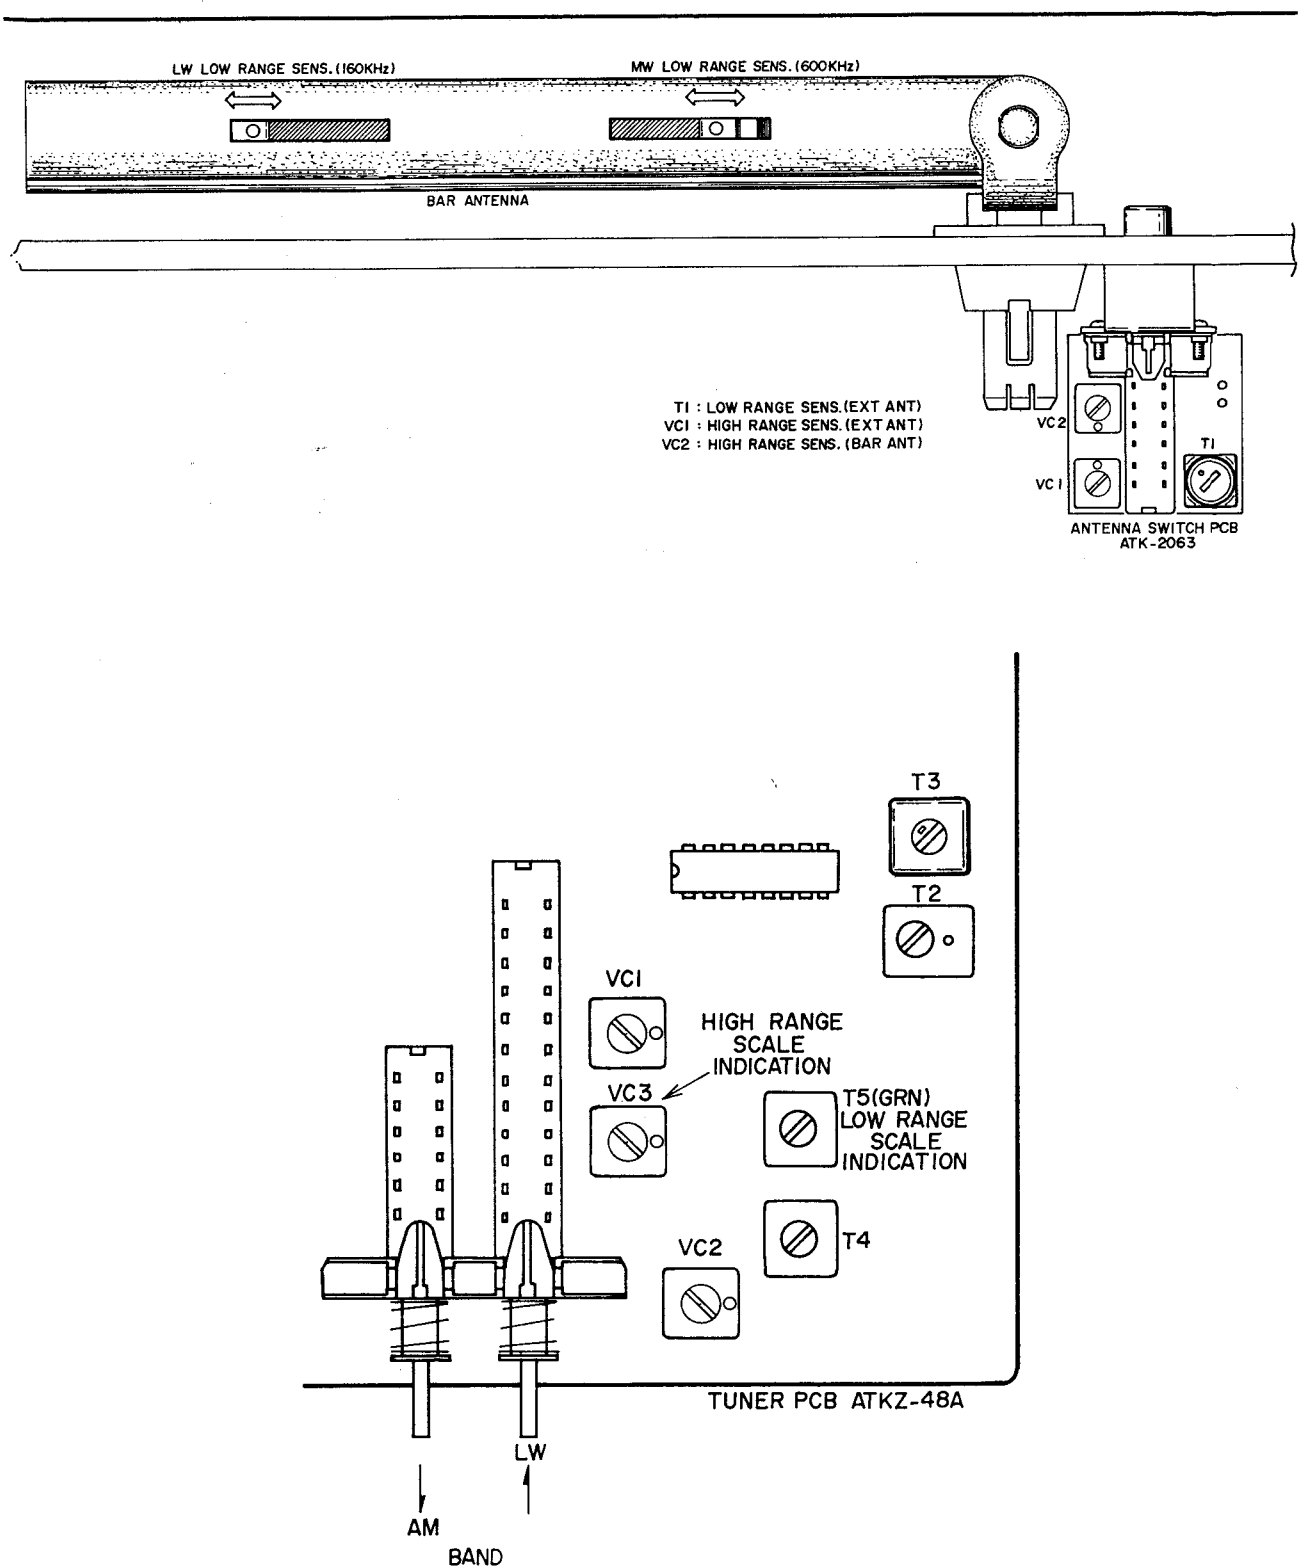

Fig. 9 Tuner P.C Board ATKZ-48A and Antenna Switch P.C Board ATK-2063 (AT-K11L and AT-K22L)
3. LW SECTION ADJUSTMENTS (AT-K11L and AT-K22L Only; Refer to Figs. 9, 12, 13)
Unless otherwise specified, use the adjustment points provided on the Tuner P.C Board (Fig. 9).